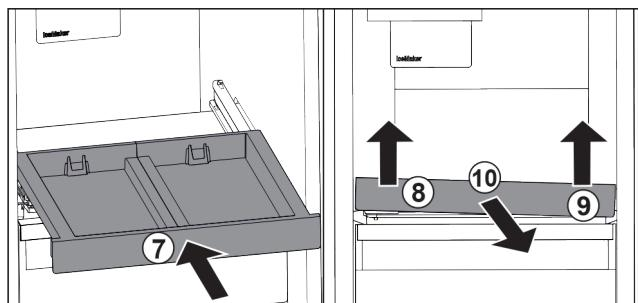

Fig. 98
- Slide in the pull-out board. Fig. 98 (7)
- Lift the pull-out board on the front left. Fig. 98 (8)
- Lift the pull-out board on the front right. Fig. 98 (9)
- Take out the pull-out board to the front. Fig. 98 (10)